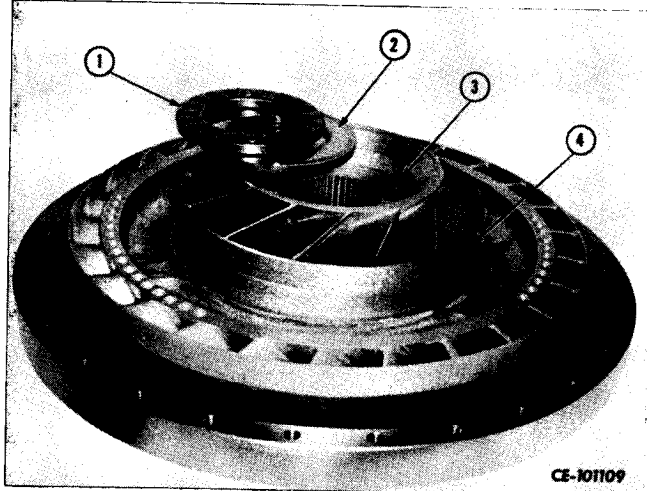

Figure 3-58
Align bore of thrust race (2, Fig. 3-58) with pin (3) of stator (4). Center thrust bearing (1) on race.
Install drive gear (3, Fig. 3-58) and driven gear (2) in pump body (1). If old gears are used align match marks on teeth.